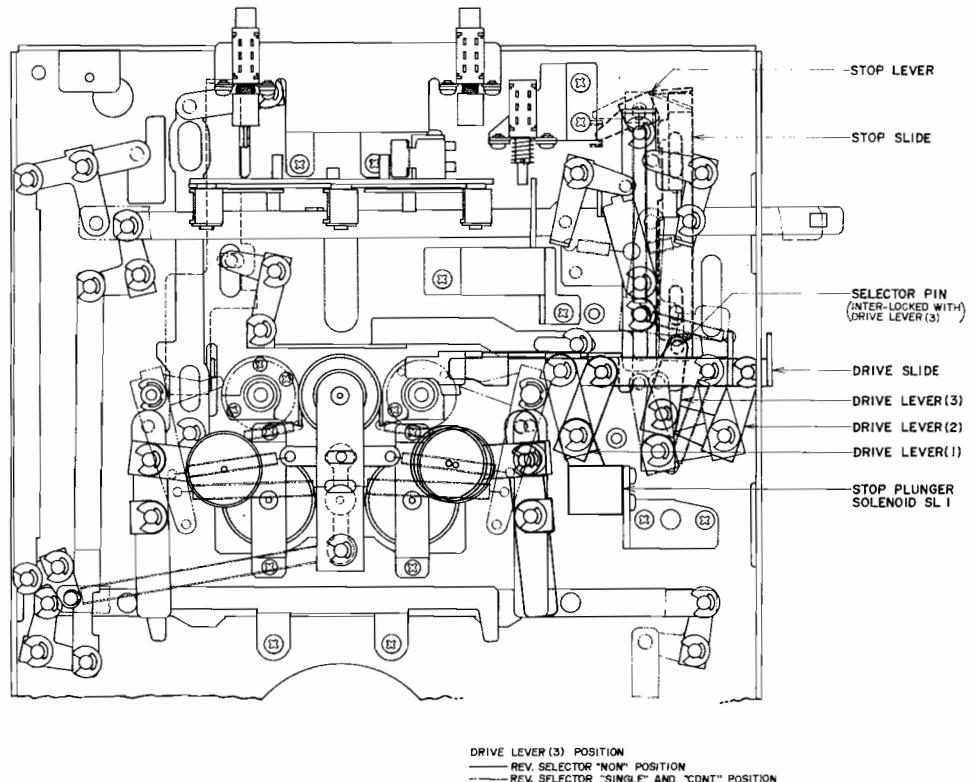

Fig. 30 Reverse Selector : NON → From FWD to STOP Mode
- c) When this happens, drive levers (2) and (3) which are interlocked with the drive slide works as shown in Fig. 30, the drive lever (3) selector pin kicks the stop slide, and the kicked stop slide depresses the stop lever, causing the Keyboard Block to release and the machine to enter STOP mode from FWD mode.